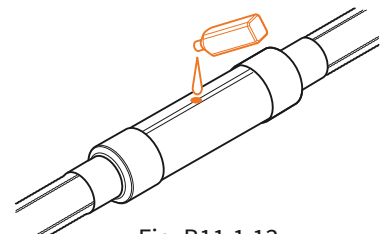

Fig. B11.1.13
13. Carefully mix the PUR liquid components (follow the instruction on Paragraph B11, ensuring that all of the safety equipment is used). Carefully pour the mixed liquids into the hole in the Heat Shrink Sleeve (Fig. B11.1.13).